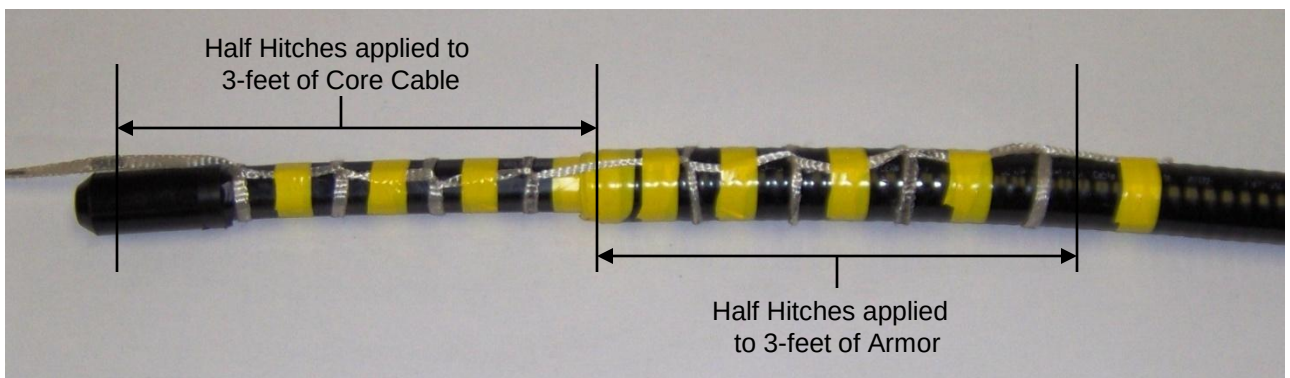

Figure 39
27.8 Install the Pulling Tape or Rope around the armor and exposed core cable with a series of half hitches. **See Fig. 39.**